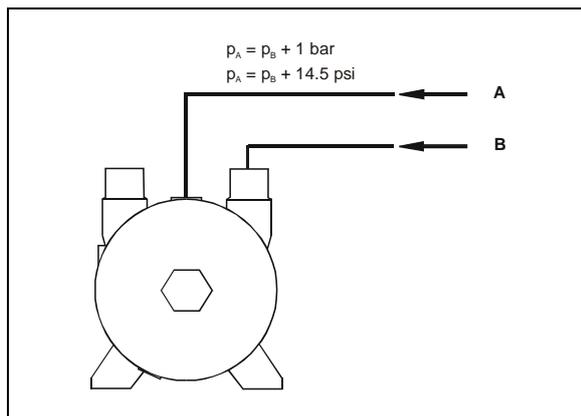
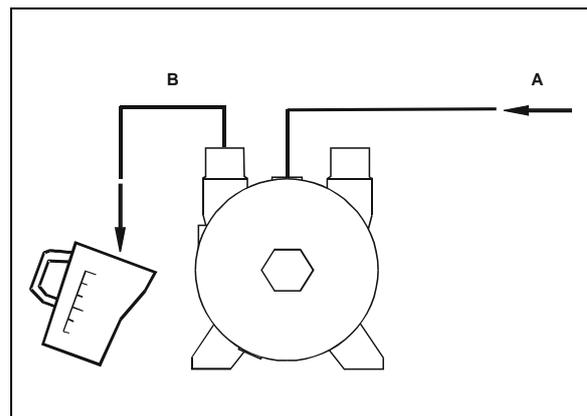
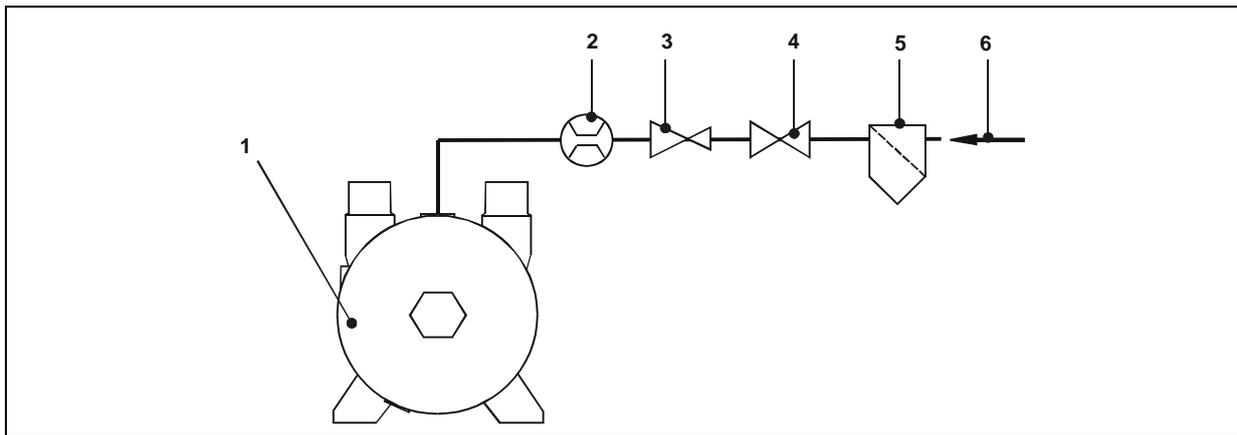
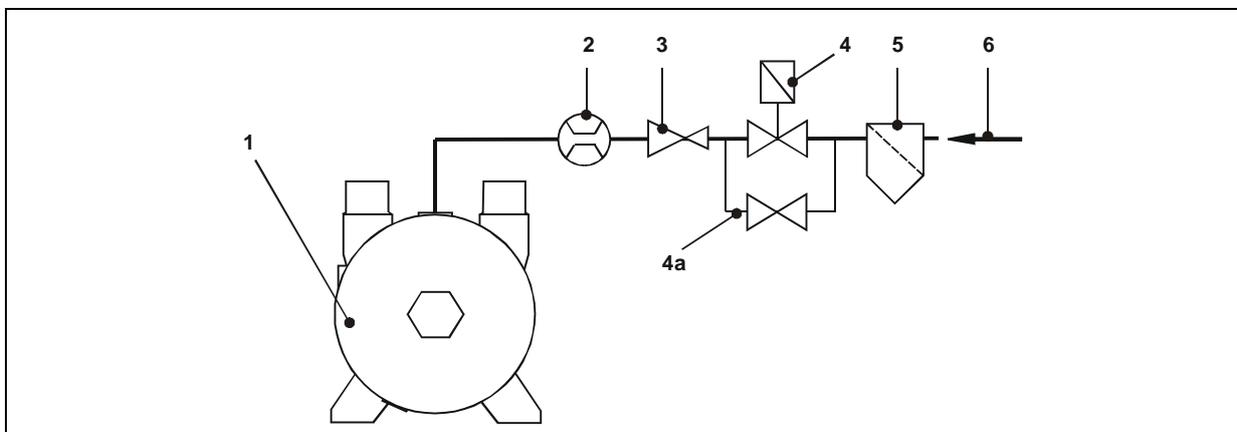

Fig. 9: Setting the operating-liquid flow rate: Setting pre-pressure
Fig. 10: Setting the operating-liquid flow rate: Measuring the volume with a graduated vessel
Fig. 11: Operation with operating-liquid feed: Non-automatic operation
Fig. 12: Operation with operating-liquid feed: Automatic operation
Stop valve (Fig. 11, Pg. 29, Item 4).
Stop valve in the bypass pipe (Fig. 12, Pg. 29, Item 4a).
See Fig. 9, Pg. 28; and Fig. 10, Pg. 28, as well as Fig. 11, Pg. 29 and Fig. 12, Pg. 29.
1) Set pre-pressure of operating liquid (Fig. 9, Pg. 28):
For non-automatic operation (Fig. 11, Pg. 29):
For automatic operation (Fig. 12, Pg. 29):
- with the flow meter (Fig. 11, Pg. 29, and Fig. 12, Pg. 29, Item 2)
- by measuring the volume of operating liquid per unit of time that exits at the discharge connection with a graduated vessel (Fig. 10, Pg. 28)
- via the control valve (Fig. 11, Pg. 29, and Fig. 12, Pg. 29, Item 3)